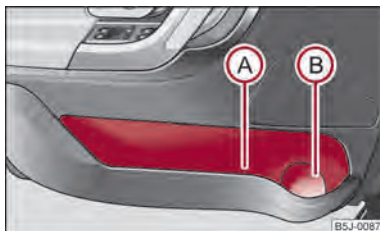

Fig. 74 Stowage compartment in door panel
Use the area (A) → fig. 74 of the storage compartment only for storing objects which do not project so that the effectiveness of the side airbag is not impaired.